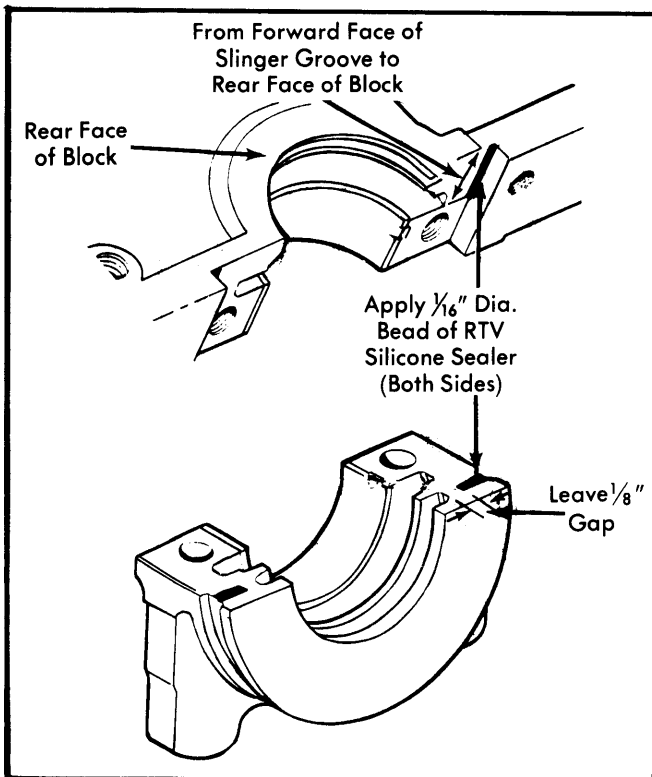

Fig. 14 Applying Sealer to Main Bearing Cap and Block
3) Apply suitable RTV silicone sealer to areas shown in illustration (see Fig. 14). Install bearing cap. Tighten bolts to specification.